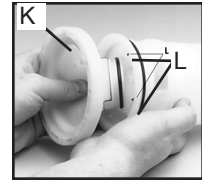

Figure 8.
9. When reassembling the pump housing to the pressure cylinder, be sure the square tab on the pump housing (K) is aligned in the notch. See arrows (L) on the pressure cylinder in Figure 8. Be careful not to pinch or nick the O-ring.